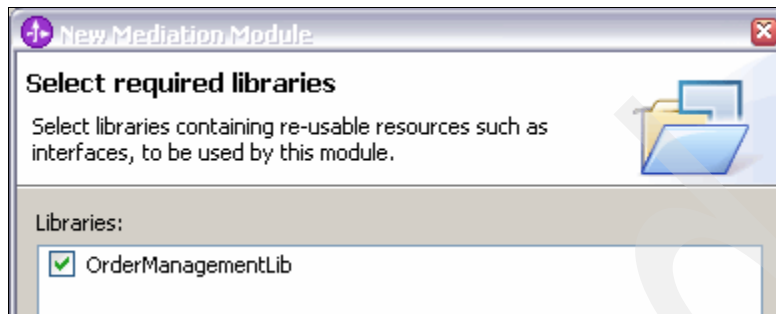

Figure 4-3 Select OrderManagementLib as a required library
3. Next, add OrderManagementLib as a required library and click **Finish**, as shown in Figure 4-3.